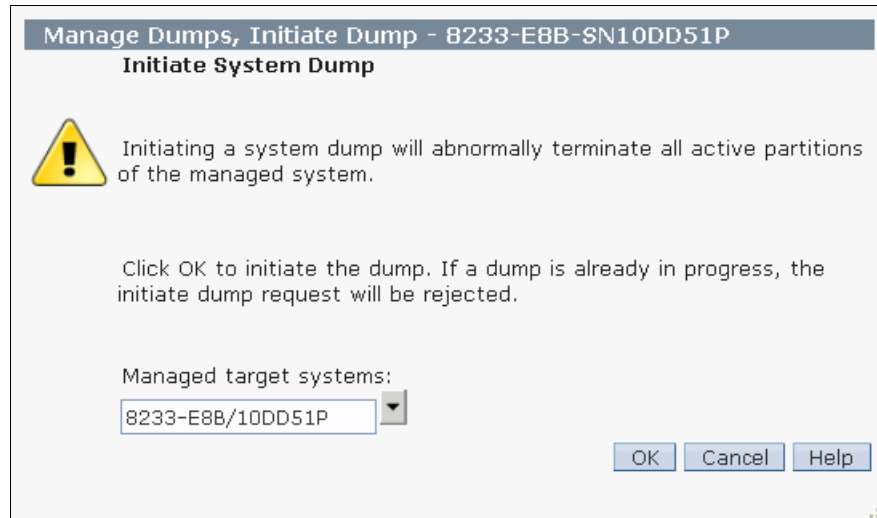

Figure 6-19 Service Management: Initiate system dump for managed system
3. Specify the system where you want to initiate the dump (Figure 6-19). Verify the selected server, and then select **OK**.